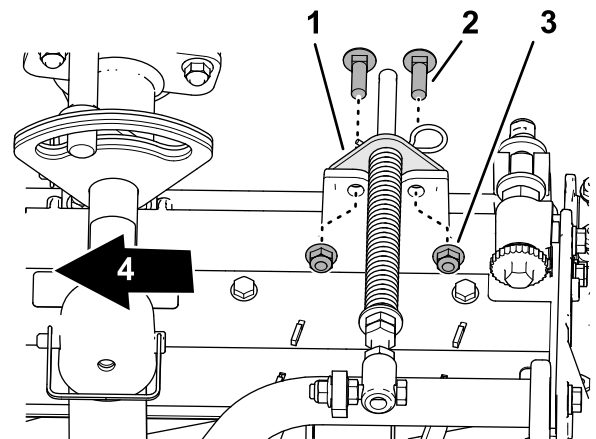

Figure 20
5. Align the holes in the turf-compensator bracket with the holes in the cutting-unit frame (Figure 20).